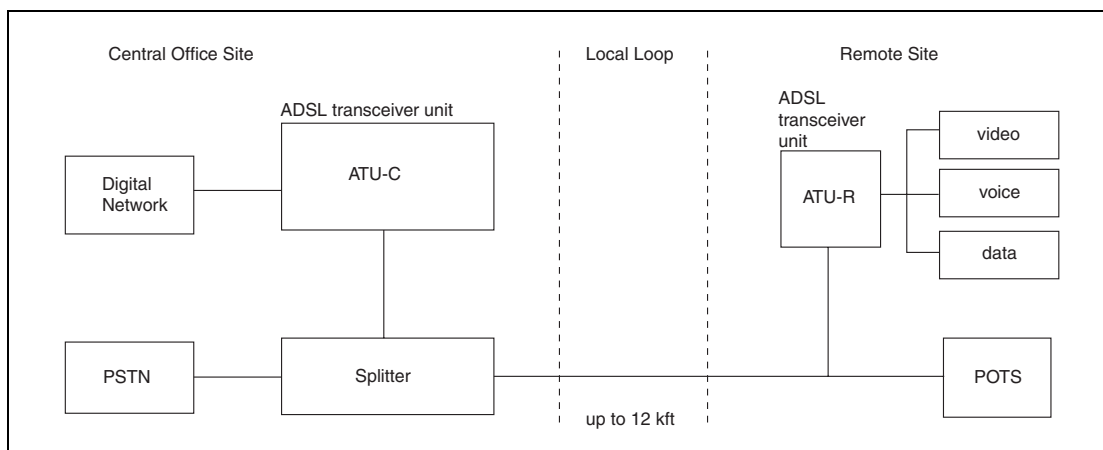
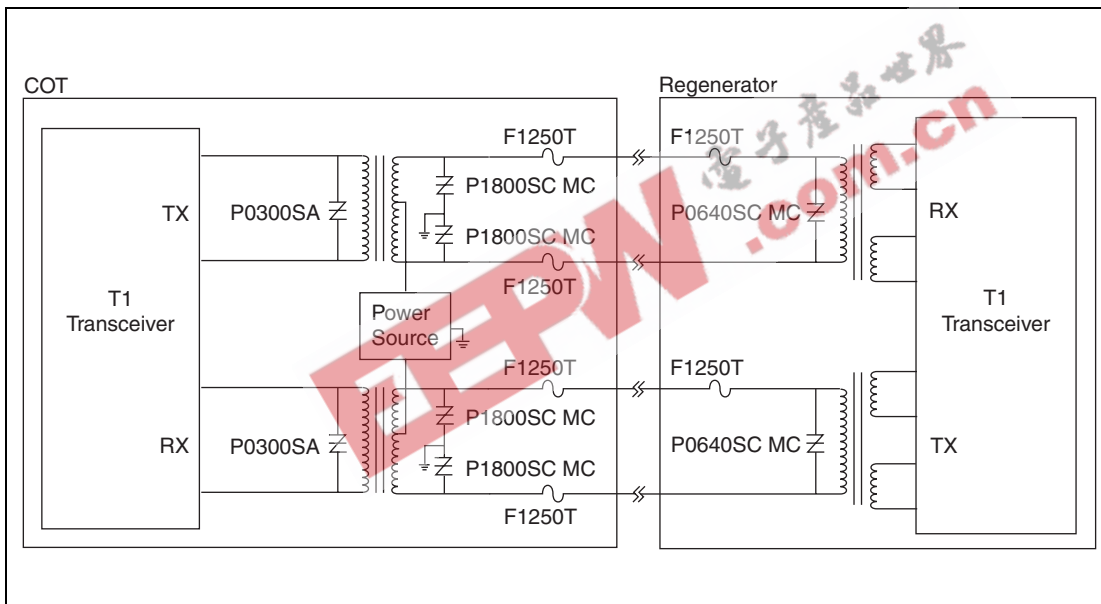

Figure 3.7 ADSL Overview
Figure 3.17 T1/E1 Protection
Transmission equipment should be protected against overvoltages that can exceed 2500 V and surge currents up to 500 A. In Figure 3.7 through Figure 3.17, *SIDACTor* devices were chosen because their associated peak pulse current ( $I_{PP}$ ) rating is sufficient to withstand the lightning immunity tests of GR 1089 without the additional use of series line impedance. Likewise, the fuse shown in Figure 3.7 through Figure 3.17 was chosen because the  $\text{amps}^2\text{time}$  ( $I^2t$ ) rating is sufficient to withstand the lightning immunity tests of GR 1089, but low enough to pass GR 1089 current limiting protector test and power cross conditions (both first and second levels).
Asymmetric Digital Subscriber Lines (ADSLs) employ transmission rates up to 6.144 Mbps from the Central Office Terminal (COT) to the Remote Terminal (RT) and up to 640 kbps from the RT to the COT at distances up to 12,000 feet. (Figure 3.7)
Longitudinal protection is required at the Central Office Terminal (COT) interface because of the ground connection used with loop powering. (Figure 3.17) Two P1800SC MC *SIDACtor* devices provide overvoltage protection and two F1250T *TeleLink* fuses (one on Tip, one on Ring) provide overcurrent protection. The P1800SC MC device is chosen because its  $V_{DRM}$  is compliant with TIA-968 regulations, Section 4.4.5.2, "Connections with protection paths to ground." These regulations state:
For the transceiver side of the coupling transformer, additional overvoltage protection is shown in Figure 3.17 using the P0300SA SIDACTor device. When an earth ground connection is not used, only metallic protection is required. Metallic protection is satisfied using a single P0640SC MC SIDACTor device across Tip and Ring and a single F1250T TeleLink fuse on either Tip or Ring.